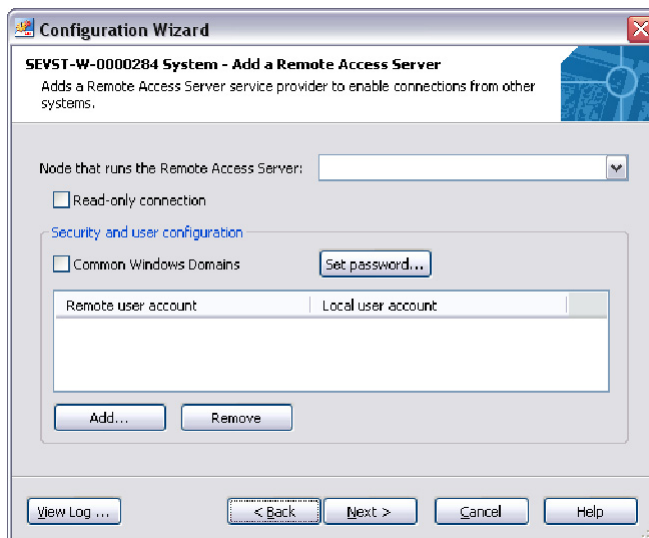

Figure 62. Remote Access Server Dialog Box
3. Open the Add Remote Access Server dialog box (Figure 62) by going to: